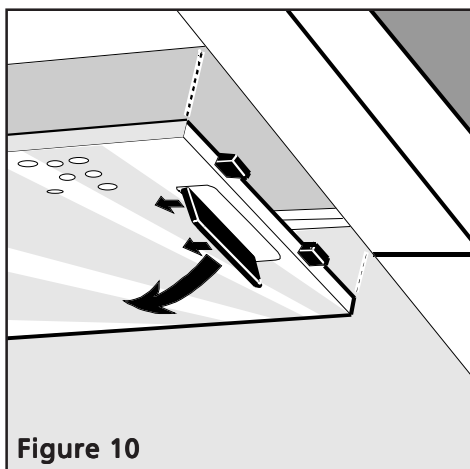

Figure 10
- Push simultaneously the two handles **S** first upwards, then towards the center and extract the filters Figure 10.